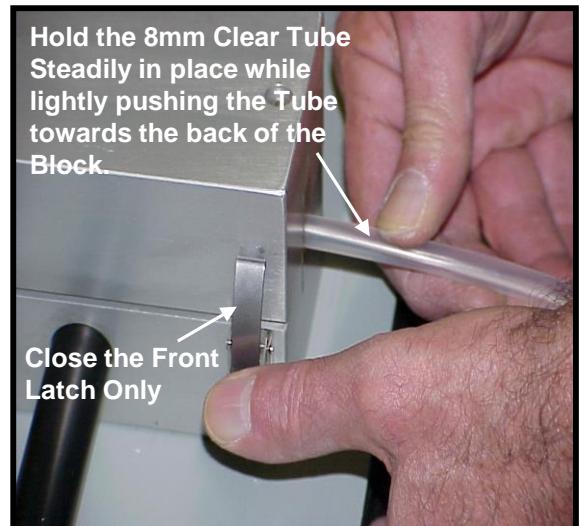

Figure 27
11.7 Slowly close the upper Blowing Head section being careful to not pinch or damage the Fiber Bundle and Air Seal. With light pressure, push backwards “towards the back of the blowing head” using the 8mm Clear Tube this will also push the Air Seal and if properly performed will close the 1/64” gap created previously. Next, push down on the upper Blowing Head section and engage/close the front latch only. **See Fig. 27.**